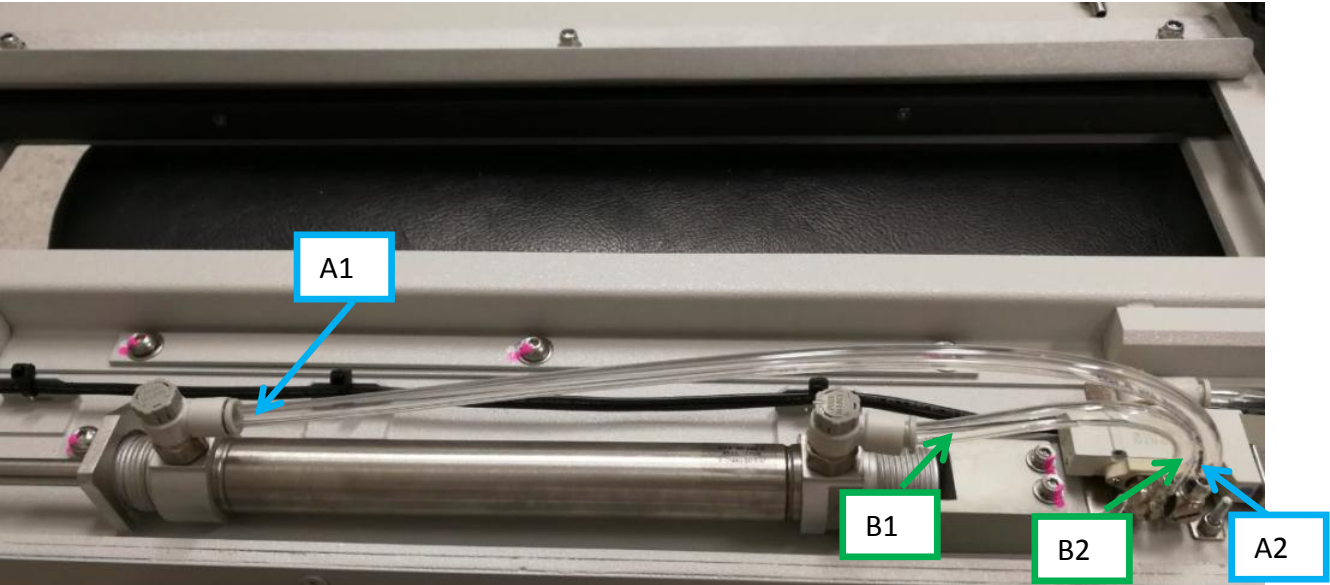

Figure 12
14. Cut 2 x tubing (PN : 2860-0003) into desire length by refer to below Figure 12. Plug 2 x Tubing by refer to below orientation.